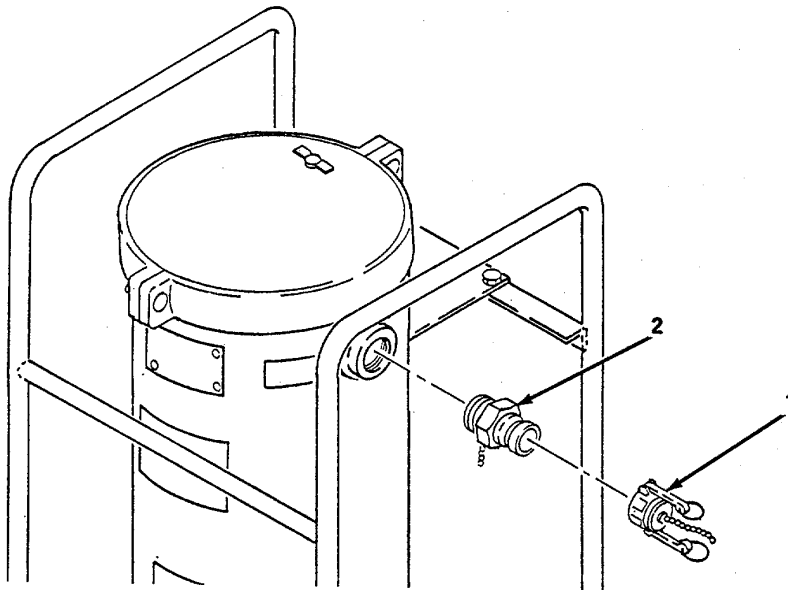

Figure 4-12. *Coupling Half Quick Disconnect (Outlet), Replace.*
- (3) *Coupling half quick disconnect (outlet).* (figure 4-12)
- (a) Remove dust cap (1).
- (b) Remove coupling half quick disconnect (2).
- (c) Apply sealing compound to threads on quick disconnect (2).
- (d) Install coupling half quick disconnect (2).
- (e) Install dust cap (1).